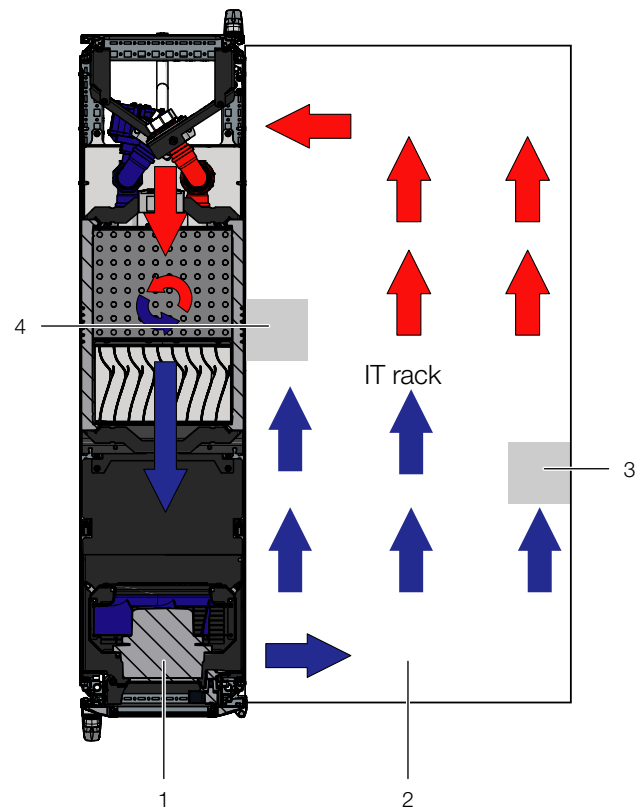

Fig. 16: Placement of foam strips for devices with sideways air throughput (top view) – LCP Rack DX
- If several devices which require sideways air throughput are included, cut out several pieces of the foam strip, as is appropriate, so that, ultimately, there is a cut-out in the foam to the left or right at the height of each such device in the server rack. Ensure that there are no gaps on the hot air side of the devices (fig. 16, item 4).
- Attach the foam strips to the cold air side of the devices set back towards the rear (fig. 16, item 4), making sure that all fans built into the devices can draw air and that none of them are blocked.
The foam strips can be attached between the front and rear uprights of the server rack along the entire depth of the devices with sideways air throughput (fig. 16).